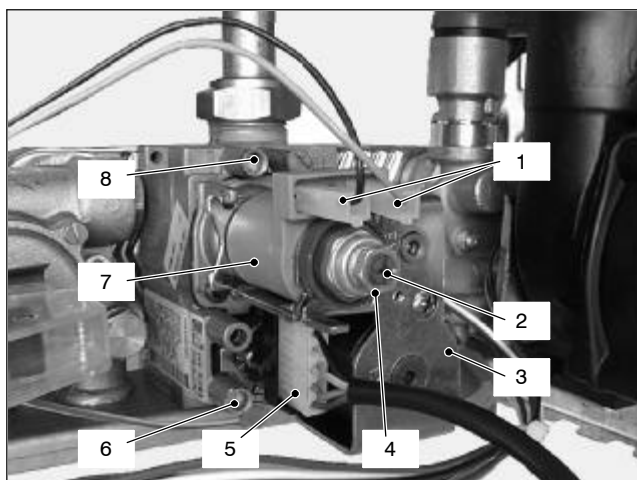

Fig. 43
11.2 Nomenclature of the parts (Fig. 43)
- 2 Open the gas valve inlet pressure test point (6 in Fig. 43) at the valve input, connect a suitable pressure gauge and check the gas pressure of the supply network.
- 4 Open the gas valve outlet pressure test point (8 in Fig. 43) and connect the gauge;
- 7 Rotate the maximum gas pressure adjustment (4 in Fig. 43) until you obtain the required pressure (by rotating clockwise the pressure increases).
- 8 Disconnect one of the two connectors (1 in Fig. 43) or, alternatively, remove the service panel as explained in the section 2.3 of this manual and set the dip–switch selector 1 (see section 9.5) to the OFF position.
- 9 Rotate the minimum gas pressure adjustment (2 in Fig. 43) until you obtain the required pressure (by rotating clockwise the pressure increases).